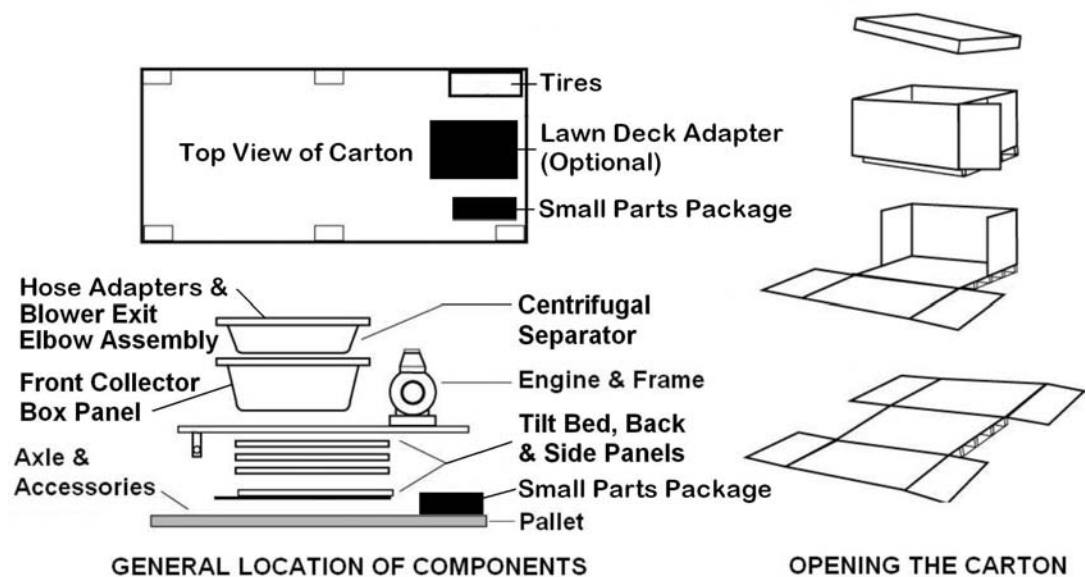

Figure 2
2. Remove the top of the carton (Figure 2).
3. Open the ends of the stapled cardboard carton and fold the sides down (Figure 2). The staples are sharp so be careful.
4. Remove the wheels from the forward upright compartment (Figure 2).